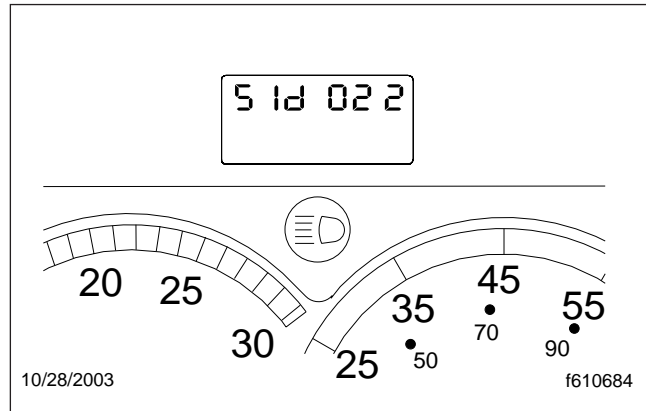

Fig. 4, J1587 Fault Code "SID 022"
2. Pressing the mode/reset switch displays the second fault screen, which shows "SID 022". See Fig. 4.